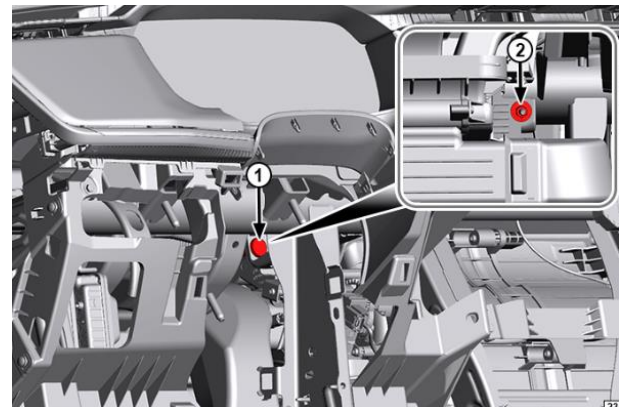

Figure 9 – HVAC to I/P Stud and Nut
16. Working in the steering column opening, remove the nut (2) from the stud (1) (Figure 9).